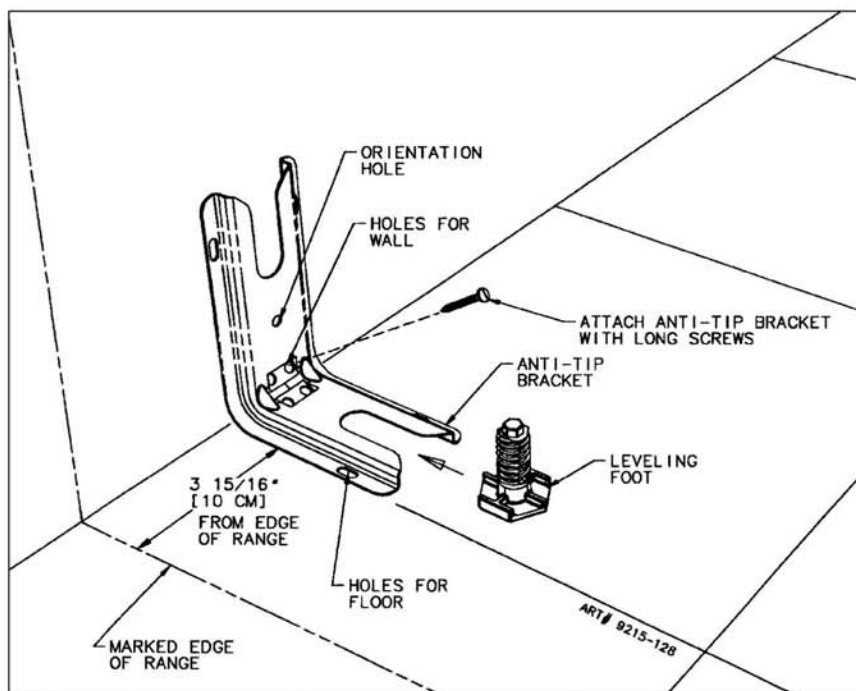
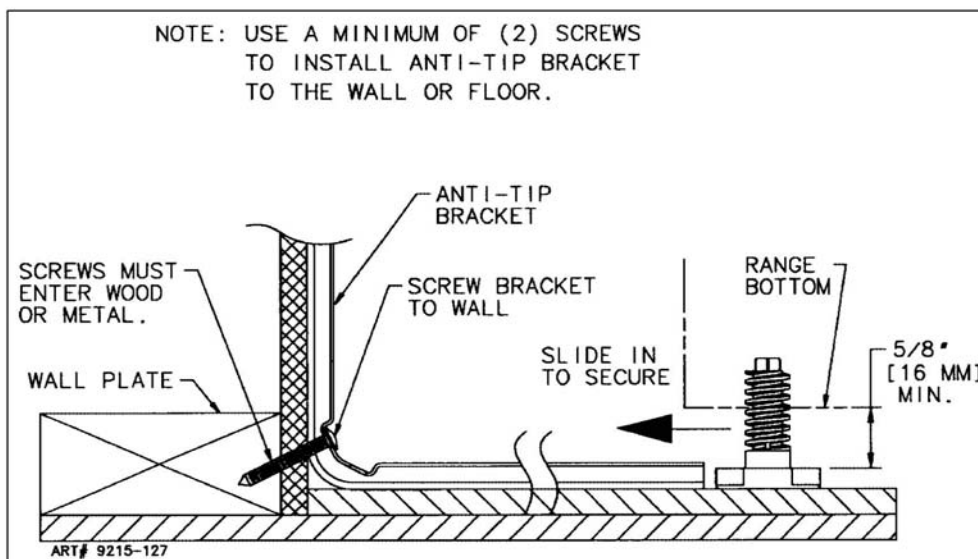

FIGURE 3
FIGURE 4
STEP 1 - Locating The Bracket (See Figure 3)
- B. Place the BRACKET 3-15/16" from the marked "EDGE" toward center of opening and against the back wall, as shown in figure 3, with orientation hole against wall.
- C. Use the bracket as a template and mark the required holes, as shown in figure 3, for the type of construction you will be using.
1. Floor: Locate the center of the two holes identified in figure 3 as "HOLES FOR FLOOR". Drill a 1/8" pilot hole in the center of each hole (a nail or awl may be used if a drill is not available). Secure the ANTI-TIP bracket to the floor with the two screws provided. Proceed to Step 3.
2. Wall: Locate the center of the two holes identified in figure 3 as "HOLES FOR WALL". Drill an angled 1/8" pilot hole in the center of each hole as shown in figure 3. (A nail or awl may be used if a drill is not available). Secure the ANTI-TIP bracket to the wall with the two screws provided as shown in figure 4. Proceed to STEP 3.
1. Suitable screws for concrete construction can be obtained at the hardware store. Drill the required size hole for the hardware obtained into the concrete at the center of the holes identified in figure 3 as "HOLES FOR FLOOR". Secure the ANTI-TIP bracket to the floor. Proceed to STEP 3.
A. Align the range to its designated location and slide it back into position. Note: A minimum clearance of 5/8" is required between the range and the leveling foot that will engage the ANTI-TIP bracket, see figure 4.